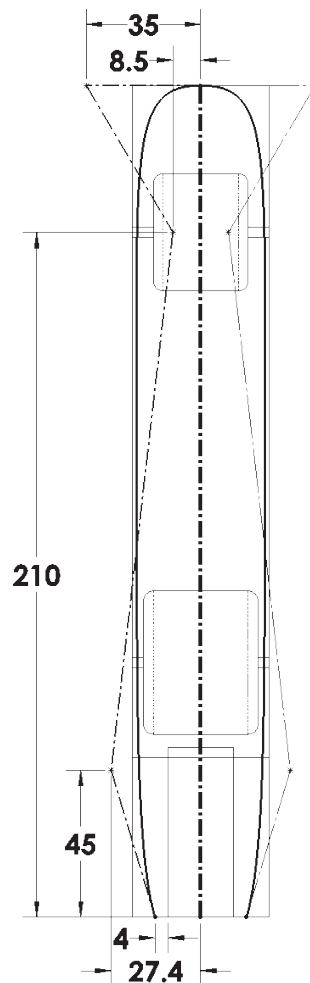

Fig. 37
Step 12. Click **Mirror Entities** on the Sketch toolbar, **Fig. 37**.